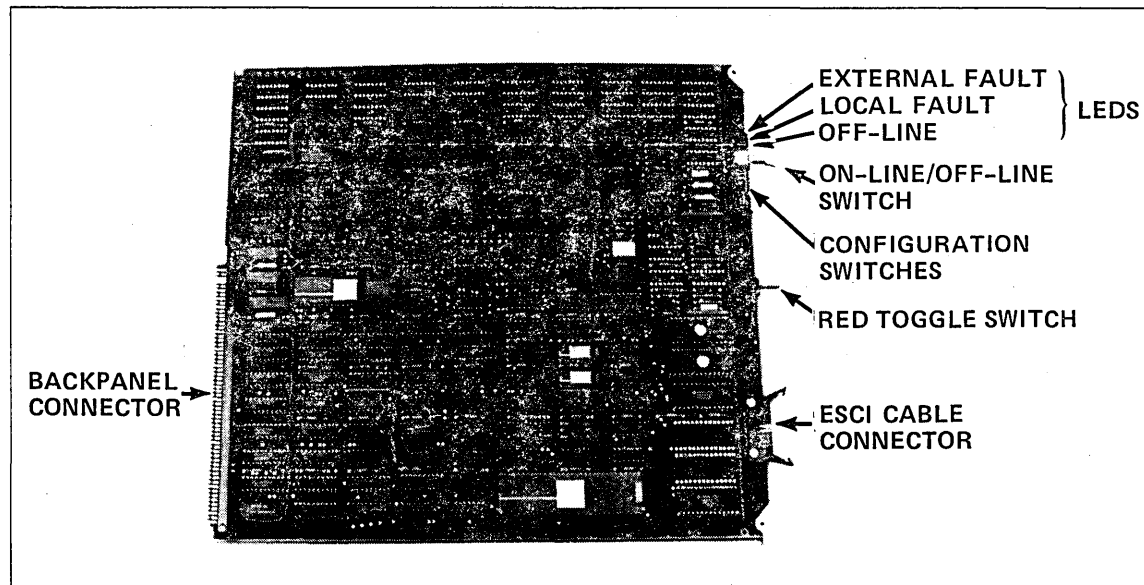

Figure 1-47. ESCI Board
1. Unpack the ESCI boards and ESCI cable (shown in figures 1-47 and 1-48), the equipment label, and the FCO label.